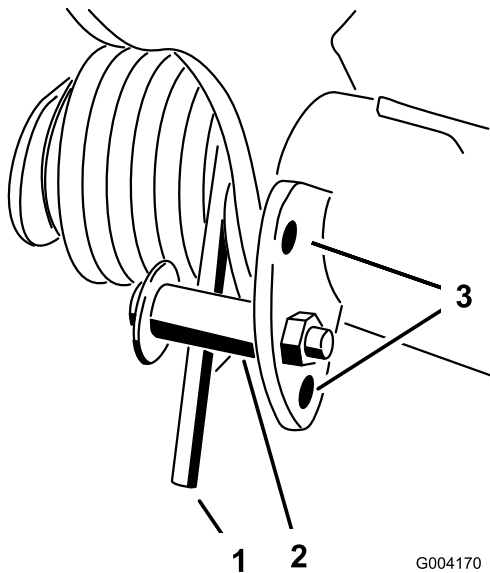

Figure 41
3. While relieving the spring tension, remove the bolt and locknut securing the spring actuator to the bracket (Figure 41).